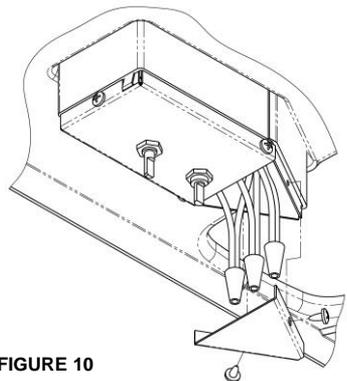

FIGURE 10
- D. Connect the supply power black conductor to the black pigtail wire, the white conductor to the white pigtail wire and the supply ground conductor to the green pigtail wire found in the wiring box using the 3 provided wire nuts. Using a U.L. approved electrical tape, secure the wire nuts to wires in a workmanlike manner (See Figure 10).
- E. Press supply conductors and wire nuts into wiring box and making sure no wires are pinched, secure the wire box cover with 2 provided screws (See Figure 10).